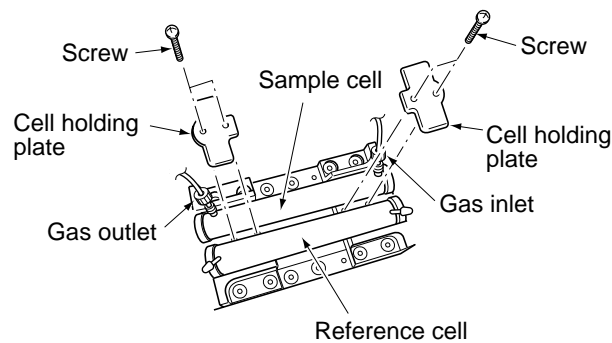

Fig. 5-1
- ① Turn off the power switch, stop the sample gas, and allow the zero gas to flow for several minutes to purge the cell interior.
- ② Remove the internal gas inlet tube.
- ③ Loosen both right and left screws for cell holding plate.
- Remove the sample cell only (see Fig. 5-1).